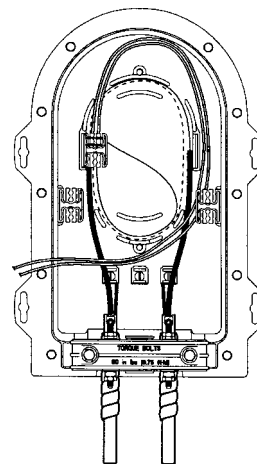

FIGURE 19 - ROUTING TRANSPORT TUBES
7.09 Route the transport tubes around the storage channel outside the curved walls to the front left corner. (Figure 19)